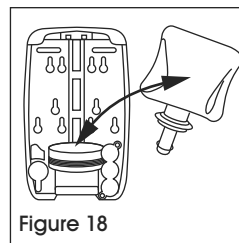

Figure 18
5. To remove refill, press lock release and lift refill up and out of dispenser. (See Figure 18)